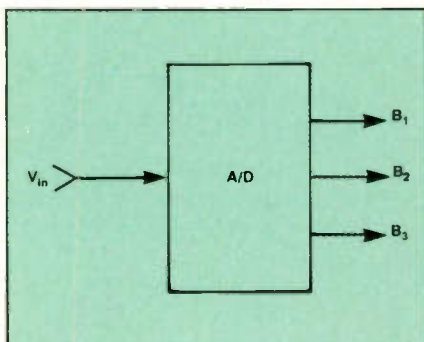

Figure 3. An ADC converts an analog voltage or current to an equivalent binary word that can be input directly to a computer or other digital device.
shown in Figure 3. The transfer function is the same as in Figure 2 with vertical and horizontal axes swapped.
**Figure 3.** The magnetic resistance effect of the MR head uses the principle in which the magnetic resistivity ( $\Delta R$ ) reduces its effect in response to the intensity of the magnetism ( $\Delta H$ ) that is applied to the videotape.
The circuitry used to apply the index signal to the full erase head and extract it from the tape with the special MR head is shown in Figure 2. Details of the MR head are shown in Figure 3. It uses the principle in which the magnetic resistivity ( $\Delta R$ ) reduces its effect in response to the intensity of the magnetism ( $\Delta H$ ) that is applied to the video tape. Thus, with a constant bias current flow (I) in the MR head, a constant out-